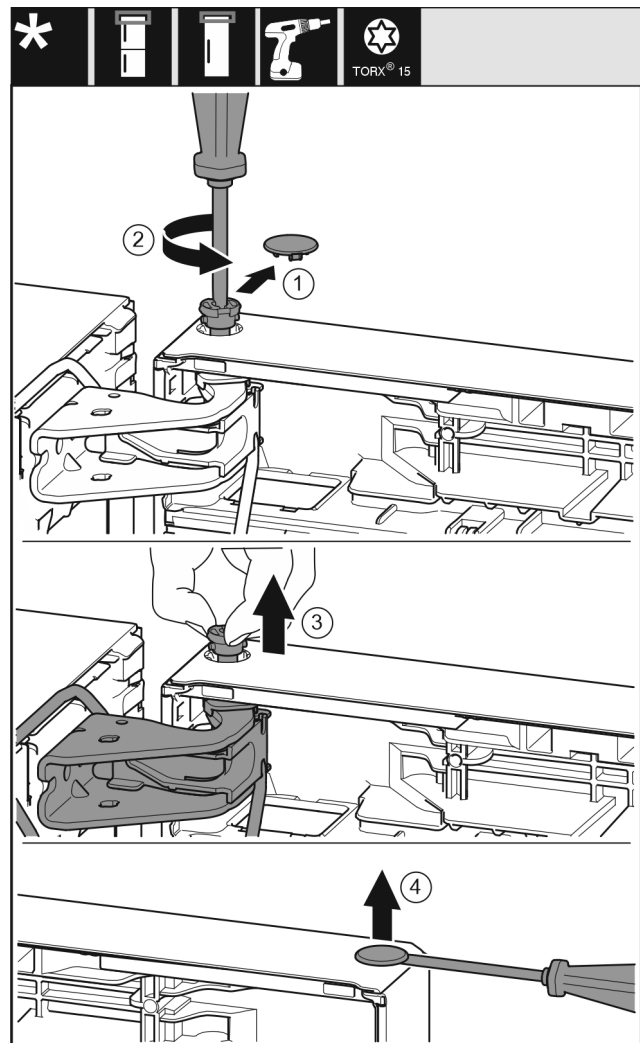

Fig. 22
- Carefully remove the protective cover. *Fig. 22 (1)*
- Undo the bolt a little with a T15 screwdriver. *Fig. 22 (2)*
- Hold the door and remove the bolts with your fingers. *Fig. 22 (3)*
- Carefully lift the plugs out of the door bearing bush with a slotted screwdriver and pull them out. *Fig. 22 (4)*